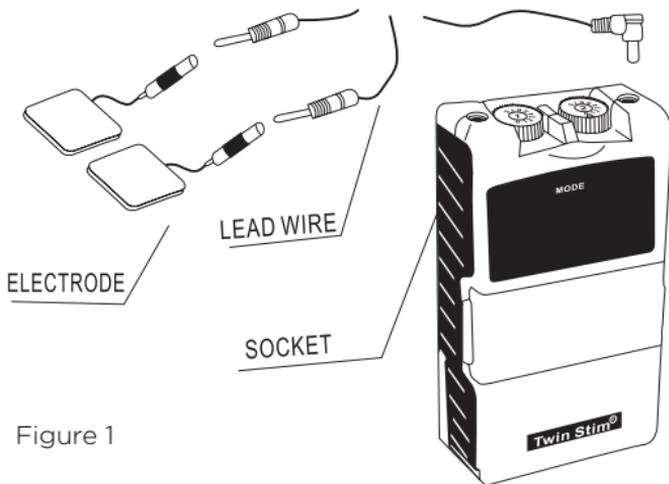

Figure 1
Insert the lead wire connector into electrode connector (standard 0.08 inch female connection) (Figure 1). Make sure the connectors are completely pushed together showing no exposed metal of the pins.
2. Insert the wires provided with the system into the jack sockets located on top of the device (Figure 1).